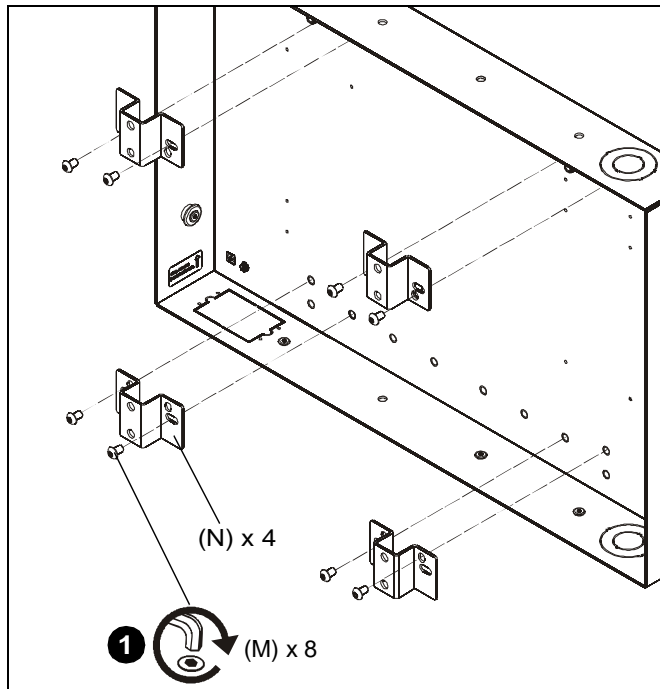

Figure 7
1. Use eight 5/16-18 x 1/2" button head cap screws (M) to attach four attachment brackets (N) to the TA501 (A). (See Figure 7)